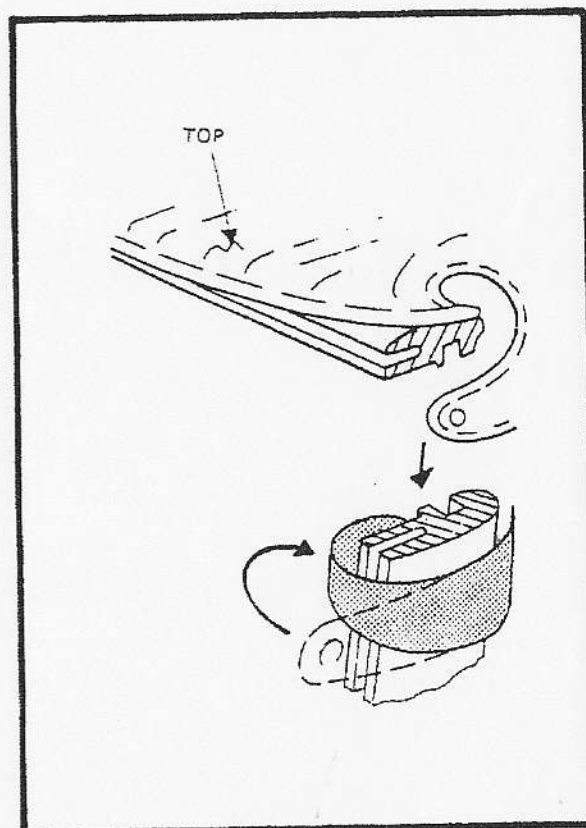

Figure 94
- ☐ Attach top to windshield by pushing front seam into slot on front edge of windshield. Pull rear of top down over snap studs. With a grease pencil, mark the top whenever you can feel a stud underneath. After marking, install snaps using a small anvil and die tool that can be purchased for a few dollars or use a more professional type tool that can be rented. (Refer to Figure 94)